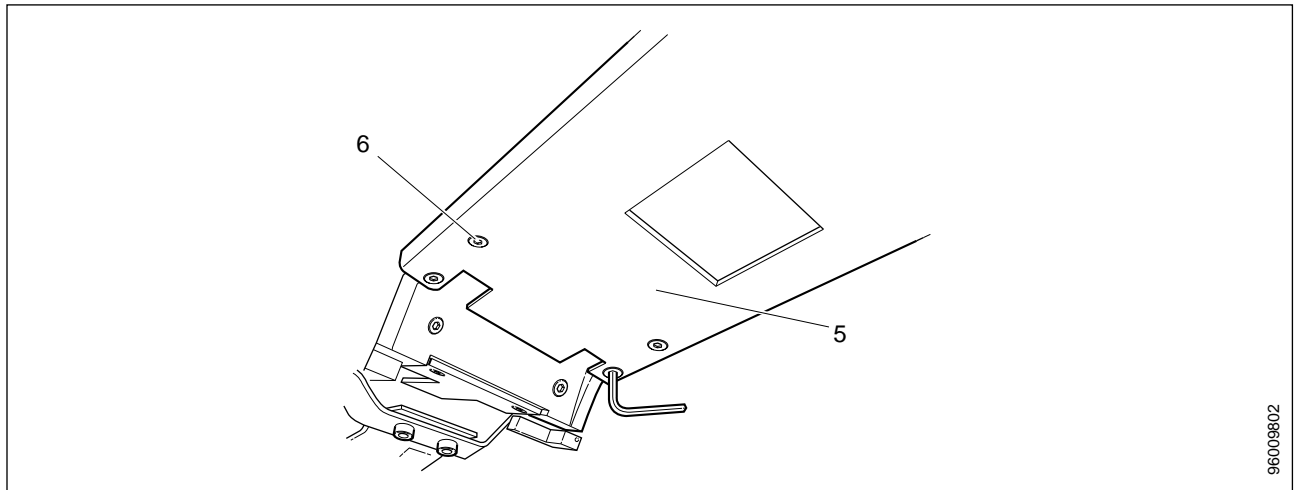

Fig. 5 Removal of diaphragm plate
8. Remove the four Allen screws (6/ Fig. 5).
9. Remove the diaphragm plate (5/ Fig. 5).